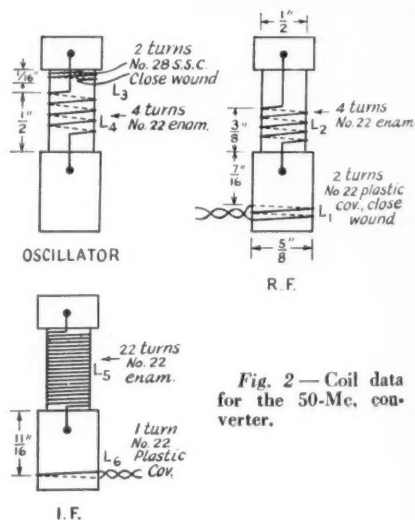

Fig. 2 — Coil data for the 50-Mc. converter.
- L₁ to L₆, inc.—See Fig. 2.
Construction of the coils is shown in Fig. 2.